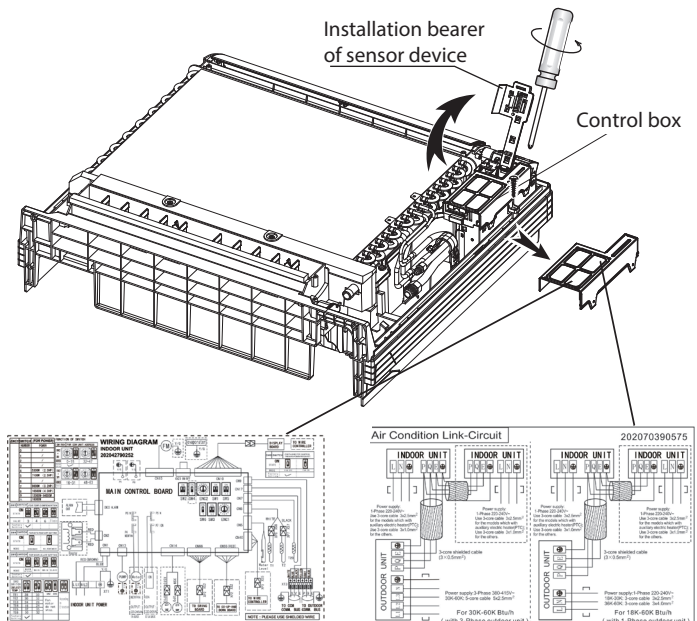

**Fig. 8.1**
2. Remove the electric cover of the outdoor unit. If there is no cover on the outdoor unit, take off the bolts from the maintenance board and remove the protection board. (See Fig. 8.1)